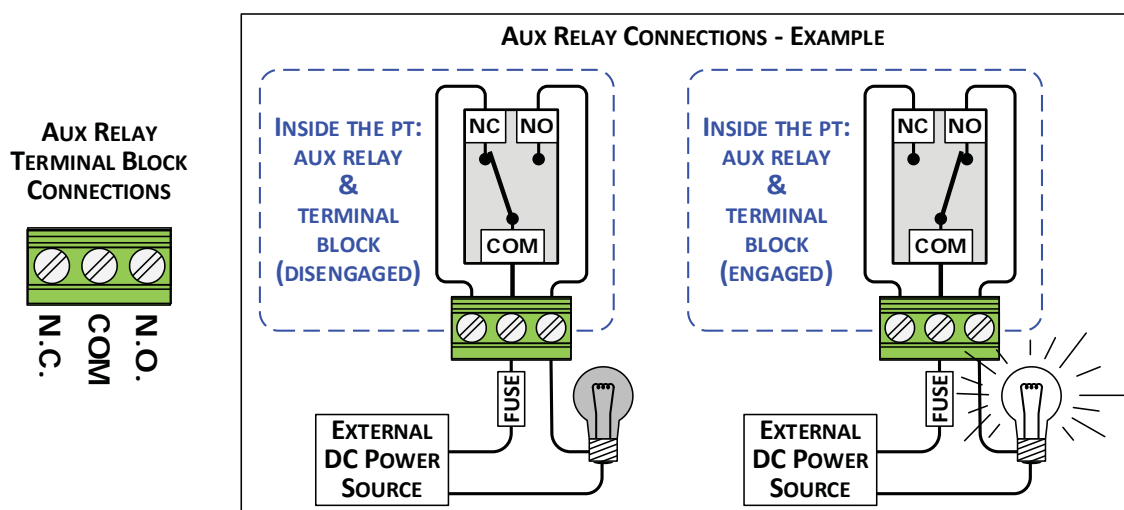

Figure 2-20, Auxiliary Relay Connections and Example
When the PT-100 is networked to a Magnum inverter and using a Version 4.0 remote (ME-ARC or ME-ARTR), this relay can indicate when a PT controller fault has occurred or be programmed to automatically engage or disengage based on high or low battery voltage. For example, this relay can be used to drive a relay for DC load control, or to turn on devices such as a battery compartment vent fan or a DC indicator light (see Figure 2-20). For more information on the relay operation, refer to Section 4.10.
- The relay is a single-pole, double-throw (SPDT) relay provided with the NC (Normally Closed), COM (common), and NO (Normally Open) contacts (see Figure 2-20).